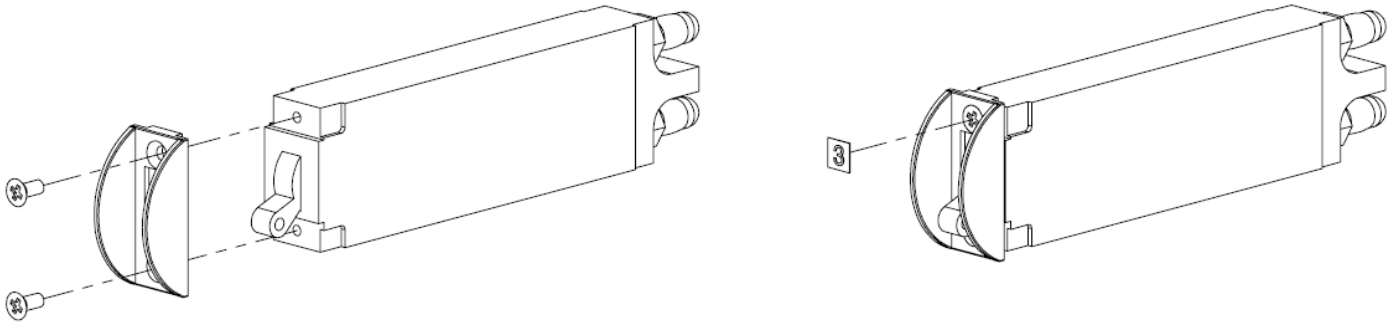
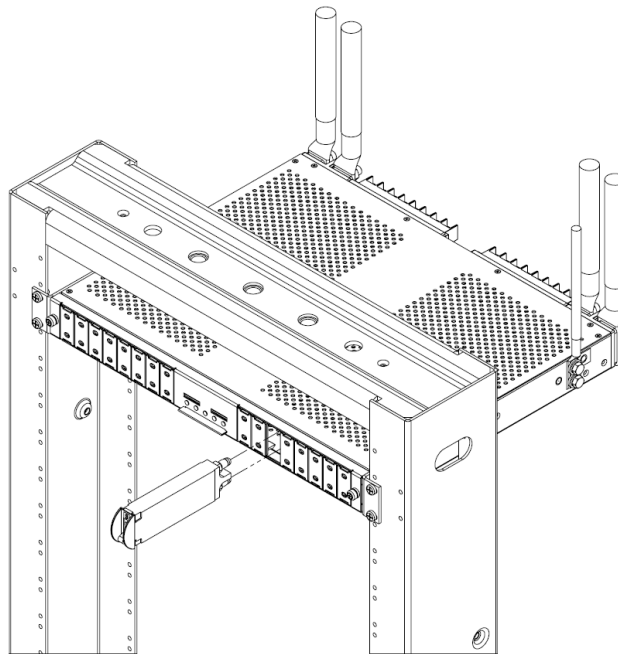

Fig. 2-9a: Installing Breaker Cover and Position Designation Label
Fig. 2-9b: Installing Breakers
20. Install touch guard cover onto circuit breaker as shown. Install Position designation label over top screw of cover as desired, see Fig. 2-9a. Next, install circuit breaker into the desired circuit, as shown in Fig. 2-9b. Ensure “Line” is on top.